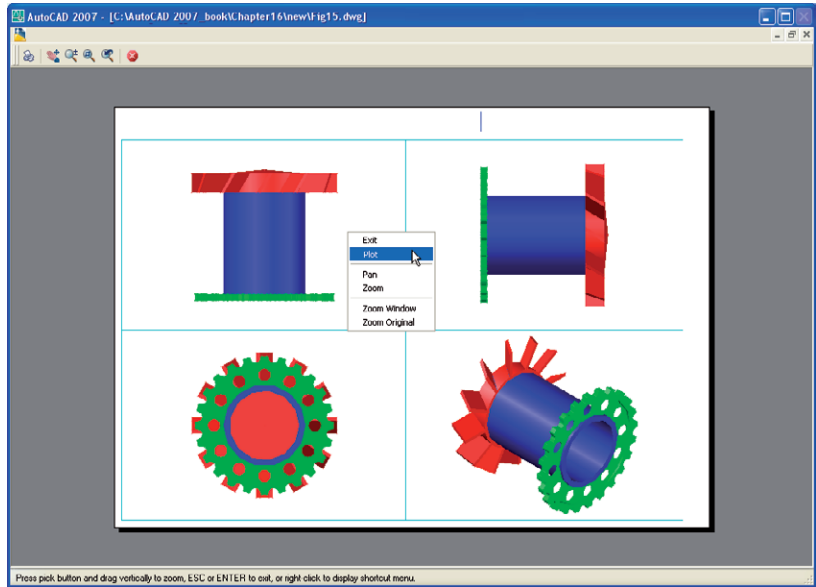
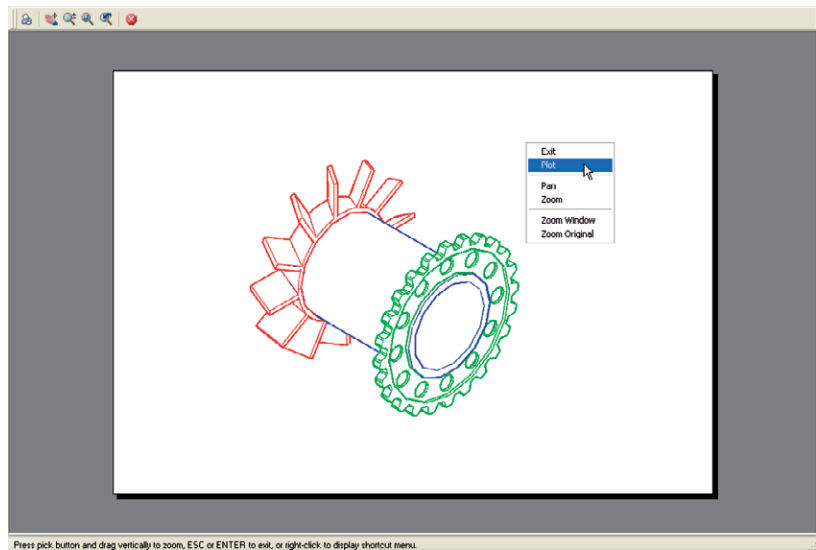

Fig. 16.29 Second example **Multiple view copy** – the print **Preview**
Fig. 16.30 An example of a **Hidden Style** plot **Preview**
Second example – multiple view copy (Fig. 16.29)
3. *Click* the **Layout** button in the status bar. The drawing appears in **Pspace**. A view of the 3D model appears within a cyan coloured viewport (Fig. 16.29).
6. If the preview is satisfactory (Fig. 16.29), *right-click* and from the *right-click* menu *click* **Plot**. The drawing plots to produce the required four-view port hardcopy.
When working in AutoCAD 2007, several different forms of hardcopy can be printed or plotted determined by the settings in the **3D Orbit/Visual Styles** settings (Fig. 16.29). As an example a single view plot preview of the same 3D model is shown in the **Hidden** shading form (Fig. 16.30).